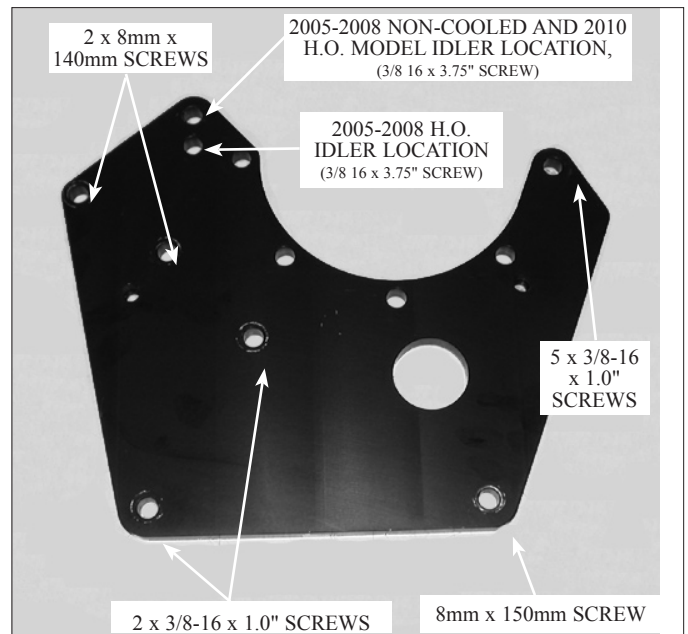

Fig. 6-c
- E. Locate the two 8mm x 140mm long bolts and washers from the mounting bracket assembly and install in the locations noted. (See Fig. 6-c.)
- F. Slide the two 2.691" long spacers onto the bolts previously installed. (See Fig. 6-f.) Install the small triangle-shaped idler pulley mounting bracket to the spacers. Install the .097" spacer onto the bolt that will be attached in the alternator location.